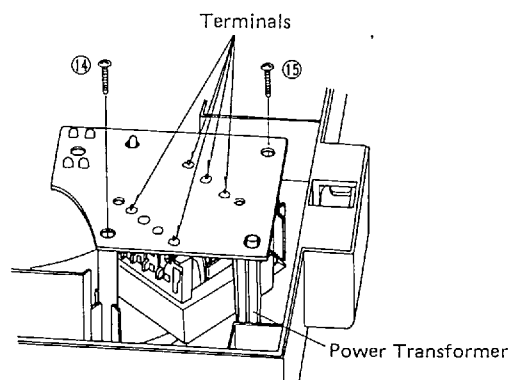

Fig. 7
1. Remove the 2 circuit board setscrews (Fig. 7: ⑭ ⑮).